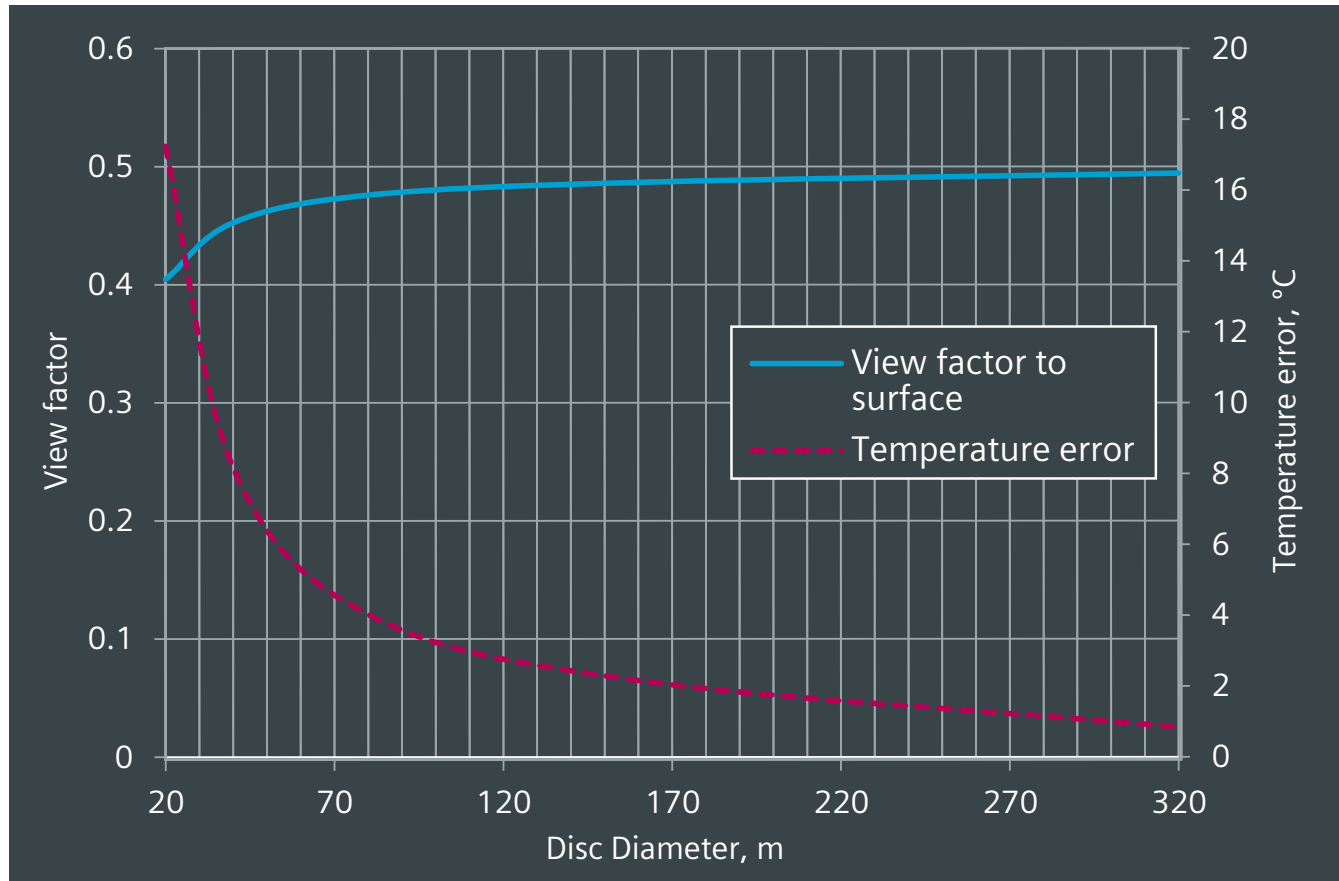

Figure 3: Effect of lunar surface disc diameter
A simple model was built consisting of a one meter square, vertical plate over a horizontal disk. The plate was centered on the disk with the bottom edge one meter above the disk, see figure 2. Disk and plate were perfect black bodies which radiated to each other and the space environment. Using the exact view factor for a small plate level with a sphere, a one meter square vertical plate one meter above the surface of the moon will have a view factor to the lunar surface of 0.4993. If the lunar surface is at 400 kelvin (K), (typical maximum at the equator), the plate will be at 336.2K. The model was solved for various diameters of disk and the average plate temperature determined and used to calculate the view factor to the disk. The results are shown in figure 3. For the equatorial region a disk diameter of about